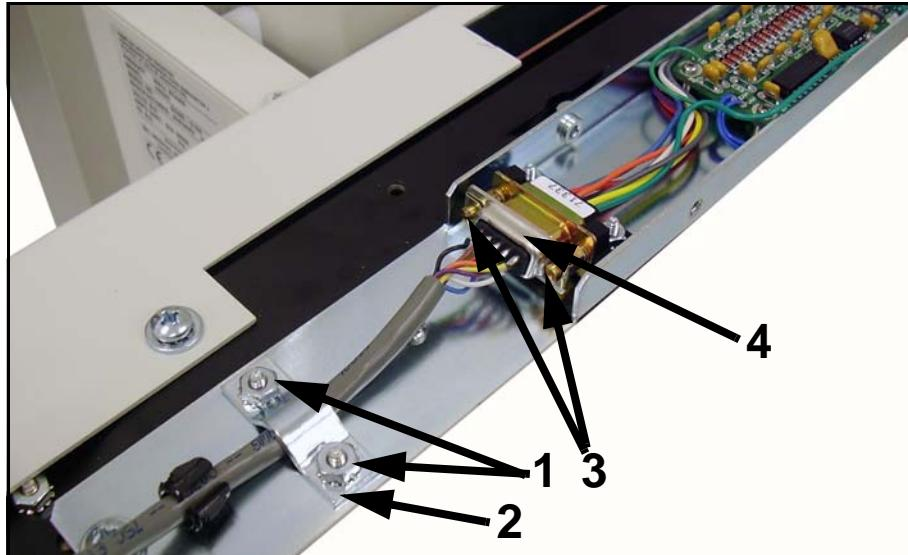

Figure 6-16. ION Chamber Screws
- 3 Unscrew cable clamp nuts (1 in Figure 6-16) and remove clamp (2).
- 4 Unscrew two connector screws (3) and unplug connector (4).